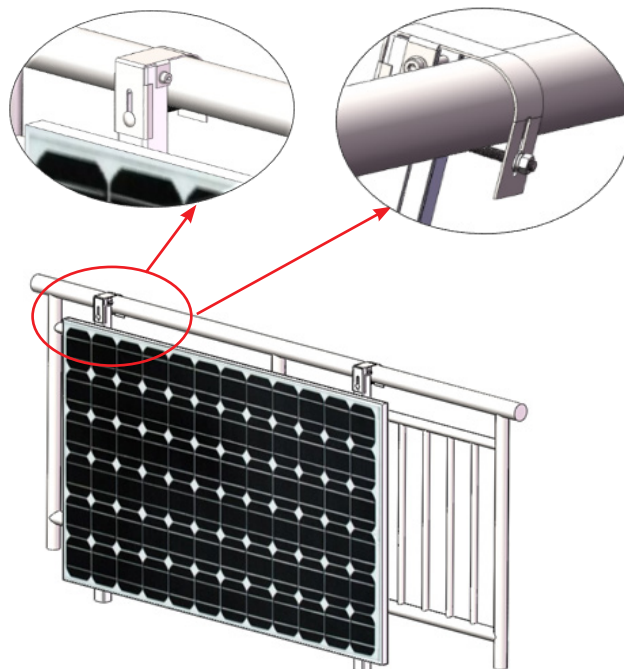

Figure 3
4.2.2 Attach the upper bracket to the balcony with M8\*125 bolt (one plain washer, washer, nut and bolt). Do not fasten the bolt as shown in Figure 3.